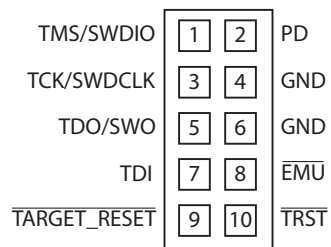

Figure 1-3. J2 Pinout
2. When connecting to a 10-pin header on a target board, connect to either the 6" cable when using the ICE-2000 or to the (J2) connector (located on the bottom of the board) when using the ICE-1000. The 10-pin housing is keyed to ensure that the signals mate correctly with the 10-pin target emulation header. The target board should also have keyed housing. Refer to Figure 1-3 for the J2 and cable pinout information.